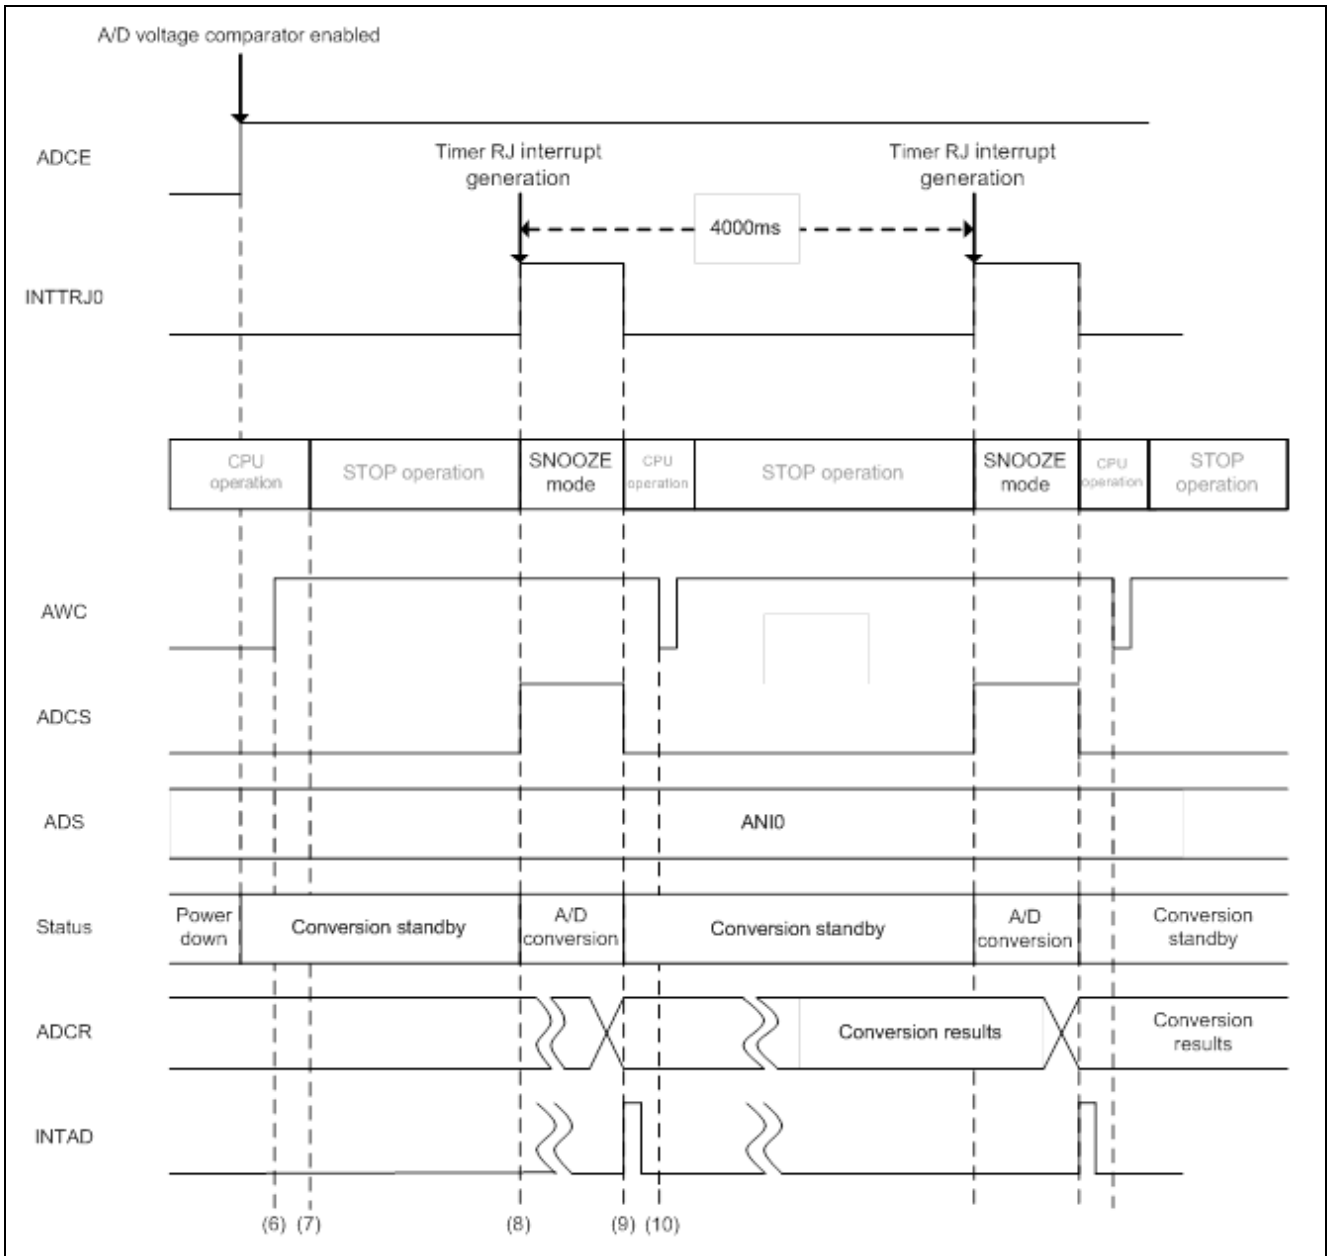

Figure 1.1 A/D Converter SNOOZE Operation Outline
Table 1.1 shows peripheral functions and their applications, and Figure 1.1 shows the A/D converter operation outline (SNOOZE mode). In addition, the number at the bottom of Fig. 1.1 shows the processing number in "5.1 Operation Outline".
Remark: Refer to “5.1 Operation Outline” for (6) to (10) in the figure 1.1.
In addition, the timing by which the following processing is performed is specified in Fig. 1.1 lower part.